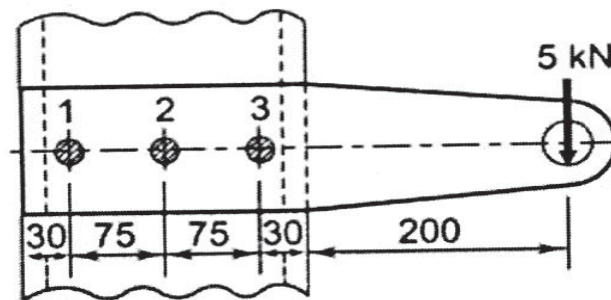

Fig.3
- b)** A steel plate subjected to a force of 5 kN and fixed to a channel by means of three identical bolts is shown in Fig.3. The bolts are made from plain carbon steel 45C8 ($S_{yt} = 380 \text{ N/mm}^2$) and the factor of safety is 3. Specify the size of bolts. [12]